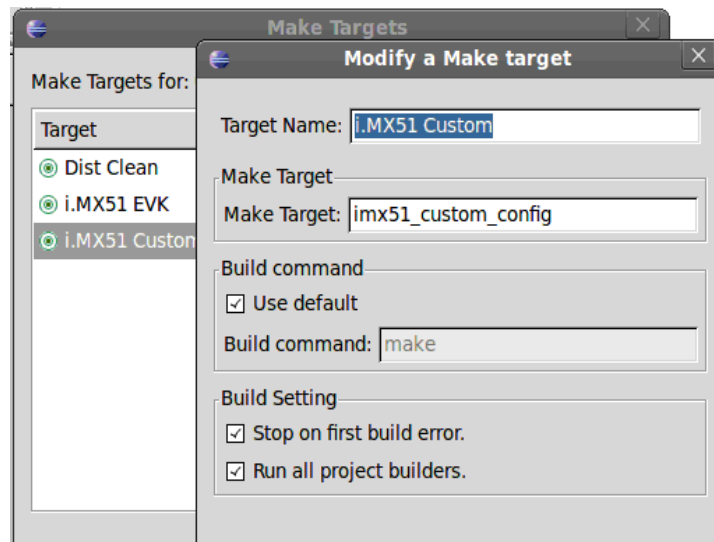

Figure 5. Make Targets in Eclipse Project
- Go to Project > Create Make Target to open a new window. For the U-Boot project, create the make targets listed in Table 7. (See Figure 5)
Figure 5 shows the making of the targets in eclipse projects.